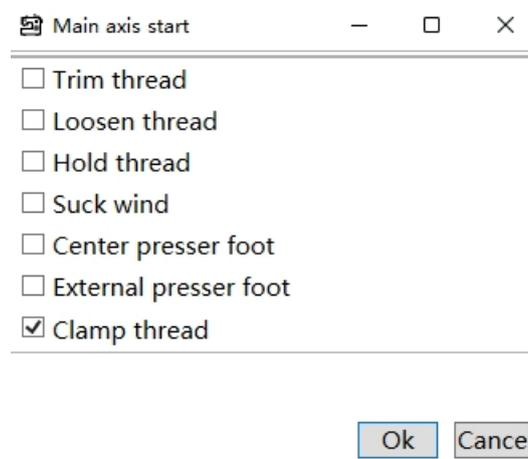

Fig. 5.7.2b Command Parameter Setting (main axis start)
② For some commands with settable parameters, take "main axis start" as an example. Double-click this command and the pop-up window is shown in Fig. 5.7.2b below.